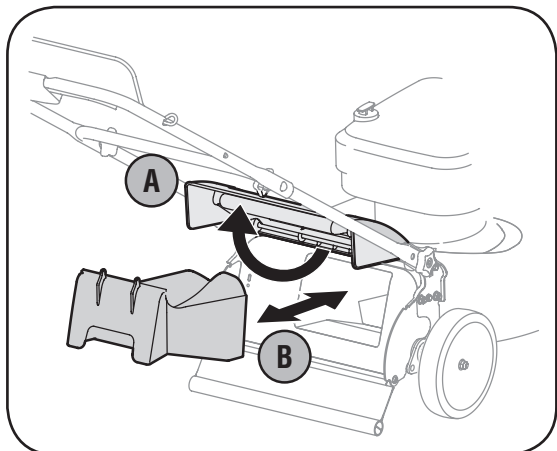

Figure 3-5: The mulching baffle
5. Before attaching the grass catcher, the mulching baffle must be removed, Figure 3-5.
- b. Insert the mulching baffle as shown in Figure 3-5 and release the rear discharge door.